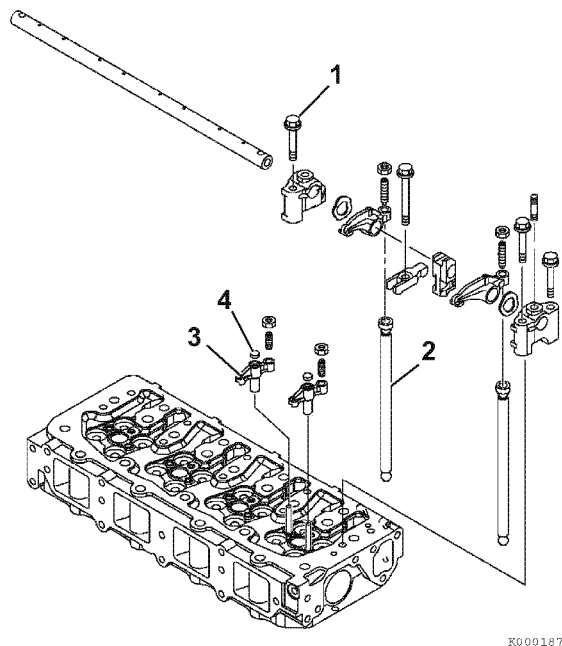

Figure 6-72
- Reinstall the valve bridges (3, Figure 6-72) in their original locations and ensure each seat (4, Figure 6-72) is in place.
- Insert the push rods (2, Figure 6-72) in their original locations.